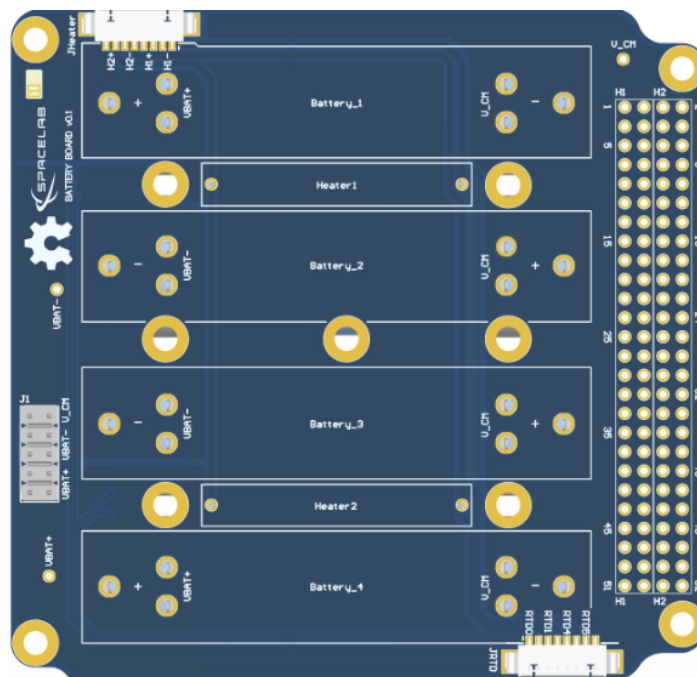
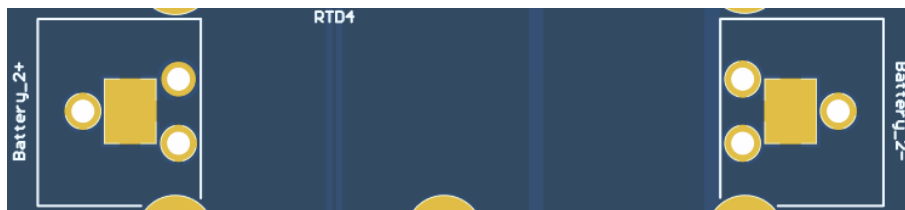

Figure 3.1: Top side of the PCB.
Figure 3.7: Bottom side of the PCB.
Each 18650 size battery cell is fixed with metal holder (54). The polarity for each cell is visible on the silkscreen on the board as can be seen in Figure 3.1. The metal holders are soldered on the through hole pads, the exposed square pads are a simple solution for soldering the cells to the board and keeping them in place during vibrations, see Figure 3.7. This particular solution might suffer improvements in later hardware releases.